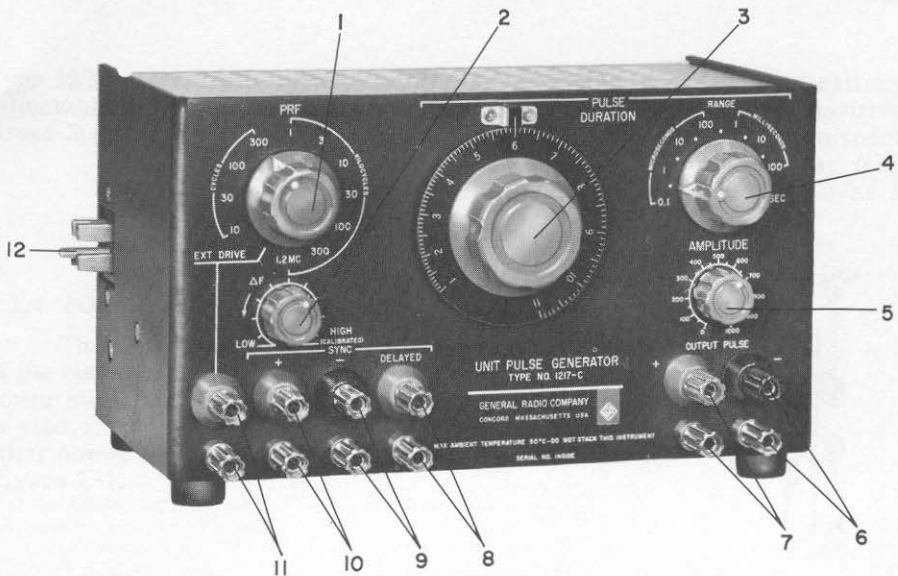

Figure 1-1. Type 1217-C Unit Pulse Generator.
See Figure 1-1 and Table 1-1 for the location and the description of the controls and connectors used on the Type 1217-C.
Pulse repetition frequency is adjusted by the PRF controls (1 and 2, Figure 1-1), over a range of 2.5 cps to 1.2 Mc. The PRF switch is calibrated to indicate prf correctly only when the ΔF control is fully clockwise. When the ΔF control is fully counterclockwise, the prf is lowered well below the next lower PRF switch setting. The range of adjustment of the ΔF control is more than enough to span any one of the ranges set by the PRF switch, and thus affords continuous coverage of the prf range of 2.5 cps to 1.2 Mc. It is important to remember, however, that the only calibrated frequencies are those indicated by the PRF switch positions, and that these are accurate only when the ΔF control is fully clockwise.
Duration of the main pulse is adjusted by the PULSE DURATION controls (3 and 4, Figure 1-1). The RANGE switch (4) selects one of seven decade ranges and the range selected is covered by the PULSE DURATION dial (3). This control consists of a knob linked by a slow-motion drive to a dial that is calibrated from 1 to 11 in tenths of a unit. The overlap beyond the decade span ensures continuous coverage of all durations.